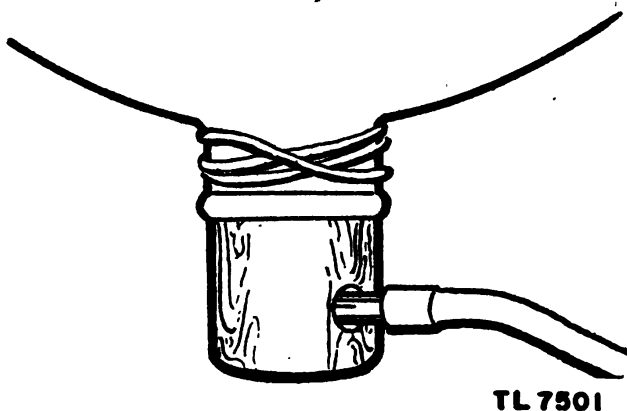

FIGURE 5. Ceiling balloon attached to Nozzle ML-186.
b. Pull the neck of the ceiling balloon over the plug end of the cylinder of Nozzle ML-186, and secure it there with two rubber bands or with a cord tied with a square knot (fig. 5).